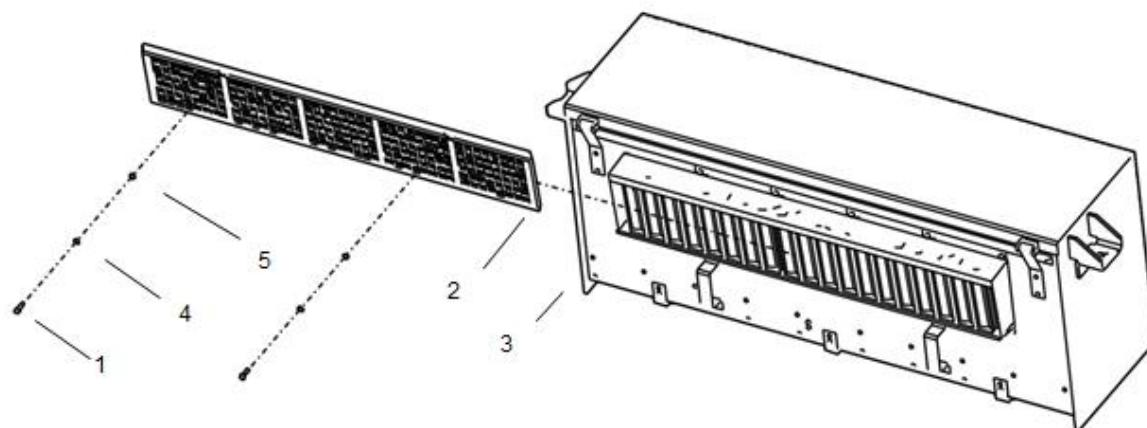

Figure 5-1: Propulsion Inverter Air Filter Removal
1. Use a 10 mm socket to remove the 6 M6 bolts (1) holding the filter (2) to the housing (3) as shown in Figure 5-1. The screw, flat washer (4), and lock washer (5) are captive hardware and should remain attached to the air filter.